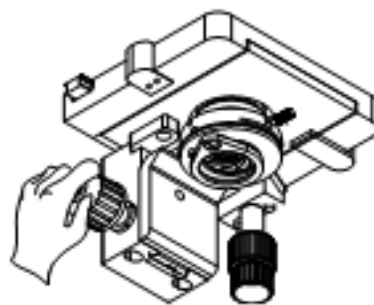

Fig.13
7.7 Rotating the Condenser moving knob, make condenser move highest and a little lower. If you observe dispersion image in view field, please adjust condenser(Fig.13).